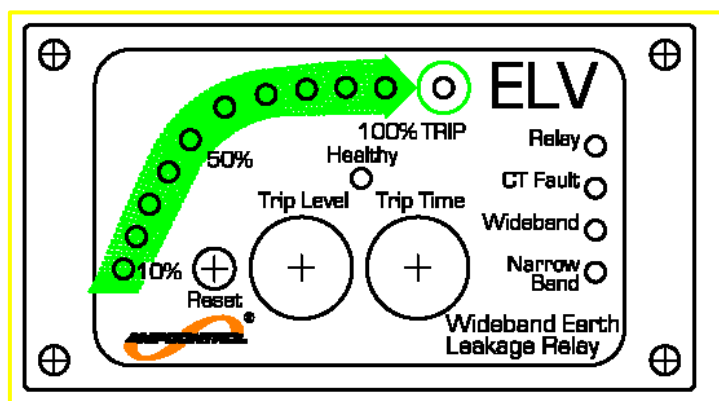

Figure 4: ELV Front Fascia
The front fascia of the ELV relay consists of a two switches for selection of the Trip Level and Trip Time, five (5) indication LEDs for diagnostics support and a ten-segment LED bar graph to display the level of Earth Leakage current being measured. Figure 4 shows the front fascia of the relay.